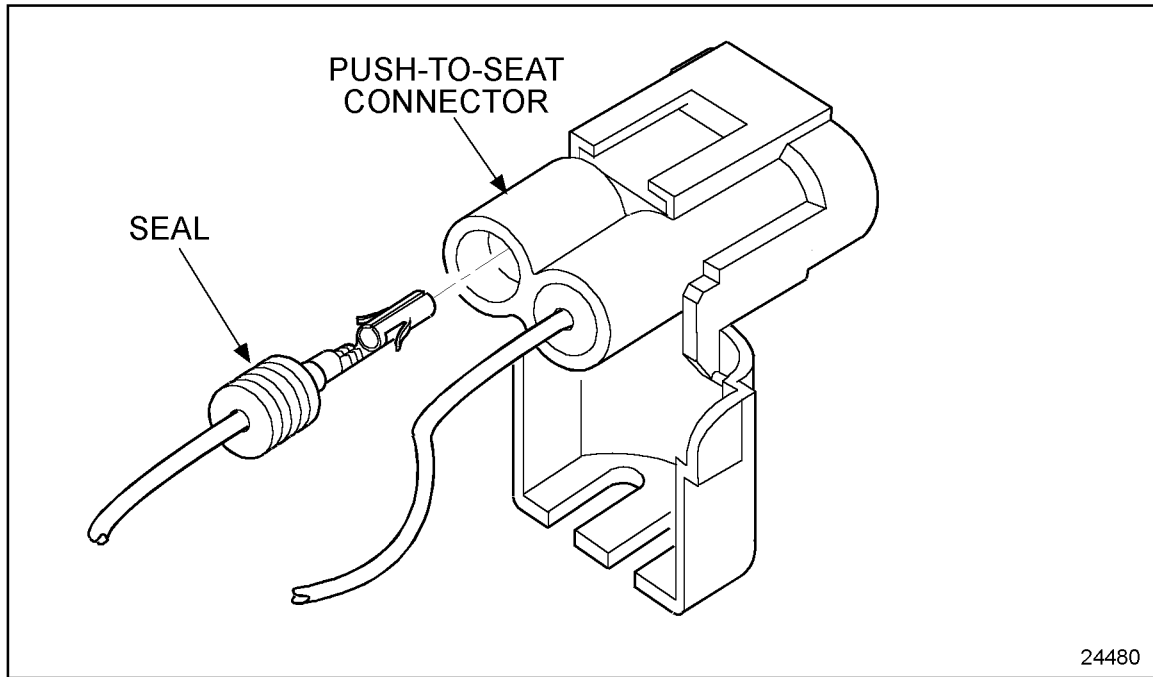

Figure 8-9 **Inserting Terminal in Connector**
5. Push the crimped terminal into the connector until it clicks into place. Gently tug on the cable to make sure it is secure. See Figure 8-9.